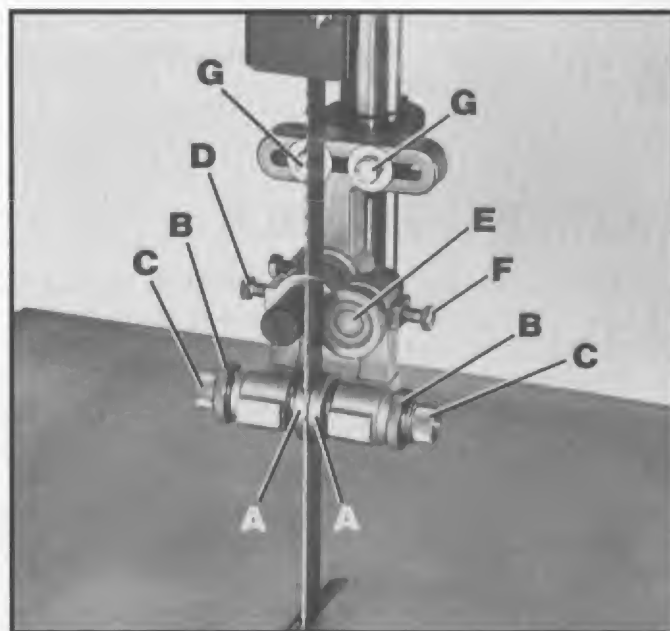

Fig. 15
2. The upper blade guides (A) Fig. 15, should be adjusted as close as possible (without actually touching) to the sides of the blade by loosening lock knobs (B) and turning adjusting knobs (C). After adjustment is complete, tighten lock knobs (B).
3. The blade guides (A) Fig. 15, should then be adjusted so the front edge of the guides (A) are positioned just behind the "gullets" of the saw teeth. This is done by loosening lock screw (D) and moving the complete guide assembly to the front or back. Then tighten lock screw (D).
4. The upper blade support bearing (E) Fig. 15, prevents the blade from being pushed too far to the rear, which could damage the set in the saw teeth. The support bearing (E) should be adjusted as close as possible to the back of the blade (without actually touching), by loosening screw (F) and moving the support bearing (E) in or out as required. Then tighten screw (F).
5. The upper blade support bearing (E) Fig. 15, must also be adjusted so the back of the saw blade will contact the bearing (E) only during the cutting operation. If the complete upper blade guide and support bearing must be moved left or right, loosen two screws (G), adjust as required and tighten two screws (G).